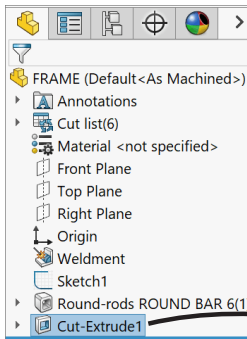
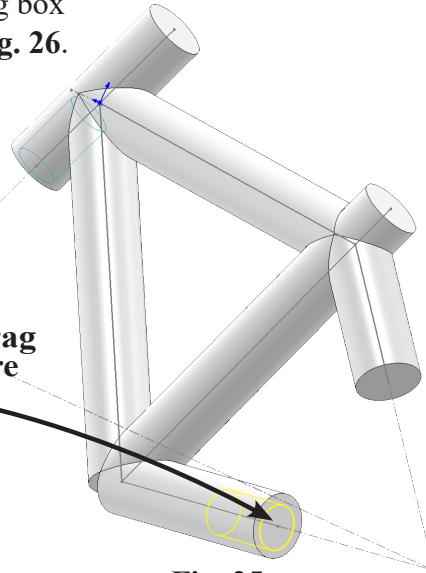

Fig. 24
Fig. 25
Step 1. Rotate view to view bottom face of Chain Stay tube and Seat Stay tube, Fig. 25. Use Left Arrow key  several times.
Step 2. In Feature Manager Ctrl drag Cut-Extrude1 to bottom face of Chain Stay tube in graphics area and release, Fig. 24 and Fig. 25.